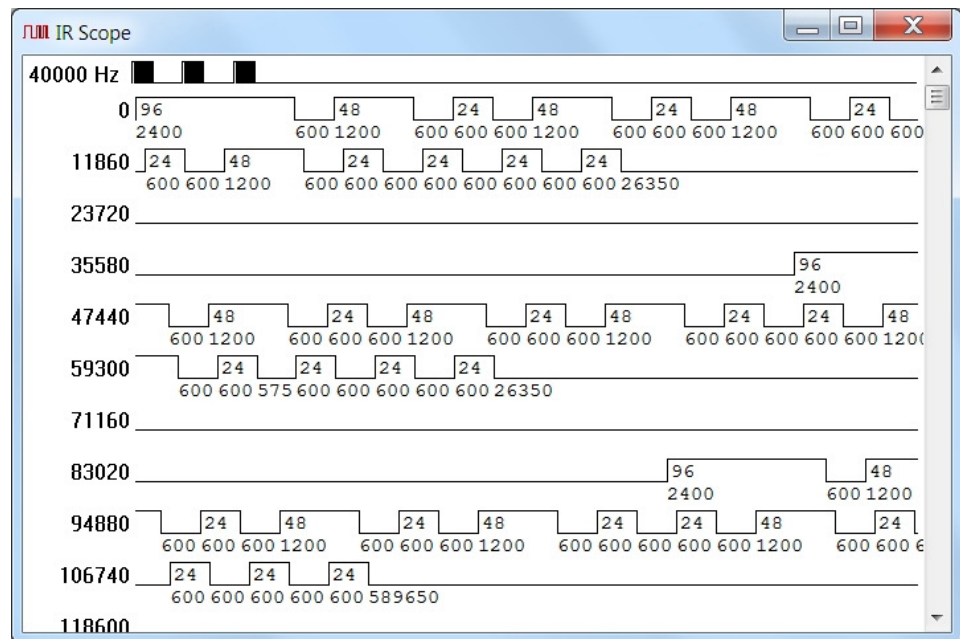

Figure 4. Waveform Display for Sony POWER Button
Figure 4 shows the resulting **waveform display**, and Figure 5 shows the corresponding decode entry that appears in the main window. Even if **IRScope** is unable to identify a signal it has captured, it still displays the waveform it received from the **Widget** and labels it "unknown" in the protocol column of the decode area.
In Figure 4, the first line of the waveform display shows the carrier frequency, followed by a one-line thumbnail sketch of the captured signal that provides an overview of your recording. Our example was shot with the default selection of **Thumbnail Scale**, which is **Entire Waveform**. That means the thumbnail shows everything that was recorded, from the beginning of the first signal to the end of the **Capture Duration** period.
The waveform display in Figure 4 depicts the demodulated carrier, drawn to a precise scale of 20 μ s per pixel. Waveform timing starts on the second line at time **0** (the moment the remote began transmitting), and increases from left to right across successive rows as you move down the screen. Numbers down the left side (**11860**, **23720**, **35580**, **47440**, etc.) show the time in μ s at that point in the waveform. Raised portions of the waveform are periods when the carrier is turned ON, and lower (baseline) portions are periods when it is turned OFF. Numbers beneath the baseline (**2400**, **600**, **1200**, **600**, etc.) are carrier ON and OFF times in μ s, and numbers above the baseline within the raised portions (**96**, **48**, **24**, **48**, etc.) are the number of carrier cycles (infrared pulses) that were counted by the **Widget** during those ON bursts.
8. CHANGING THE APPEARANCE OF A WAVEFORM DISPLAY IRScope allows you to manipulate the appearance of waveform displays in many ways, for taking measurements, making comparisons, etc. Probably the change that is most useful is to vary the waveform resolution to see more or less detail. It's fast and easy. To illustrate, I'll start with Figure 4 as an example. Here's the start of what that waveform looks like as captured.